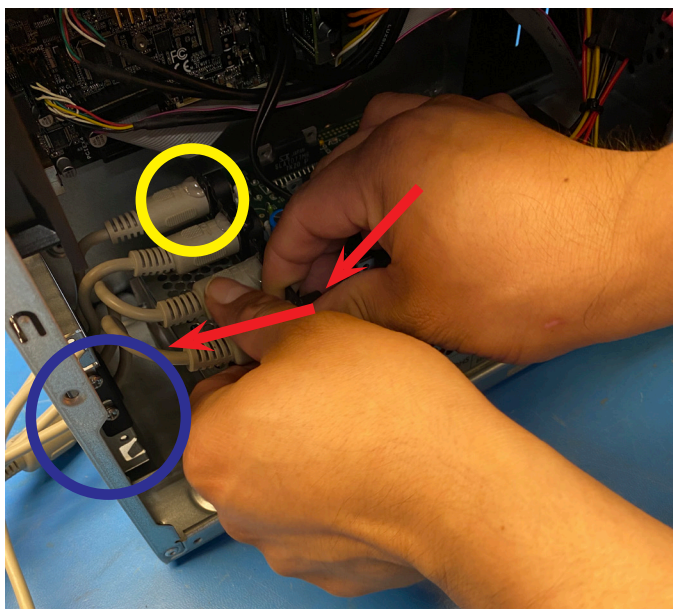

FIGURE 4
3. Remove each of the stepper motor cables from the back of the board. These cables have a small amount of glue on each one to keep them from coming loose (see Figure 4, circled in yellow).